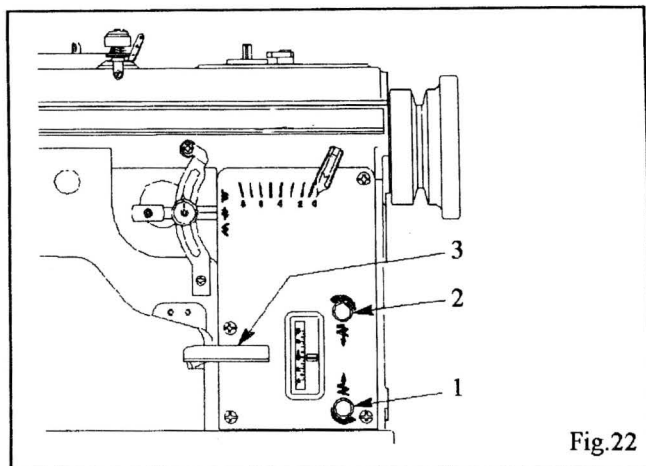

Fig.22
To regulate stitch length for forward feed, turn stitch length regulating screw stud (1), Fig. 22, clockwise to shorten the stitch length and counterclockwise to lengthen the stitch length.
To regulate stitch length for reverse feed, turn stitch length regulating screw stud (2), Fig. 22, clockwise to shorten the stitch length and counterclockwise to lengthen the stitch length.